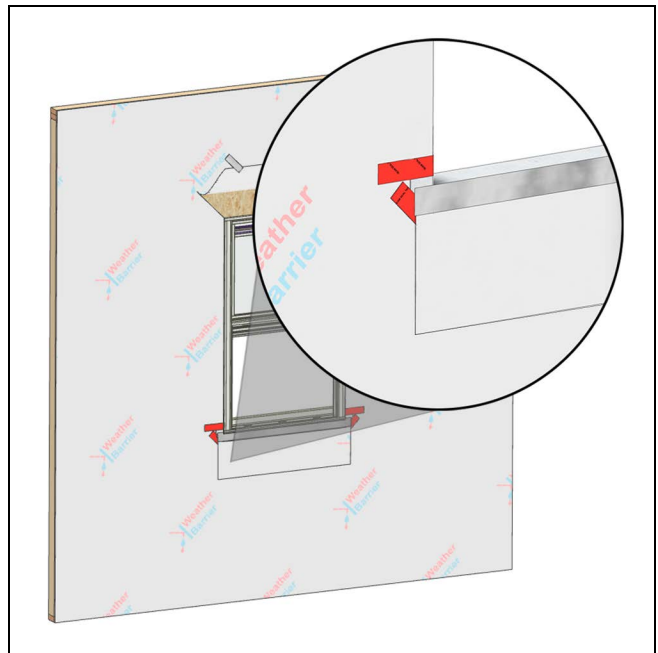

Figure 21
1. **Optional Skirt:** Install an optional "skirt" in applications with exposure to wind driven rain/climate. Use flashing material or a 12" strip of WRB and attach to the sill, overlapping at least half of the front face of the flange. See Figure 21.